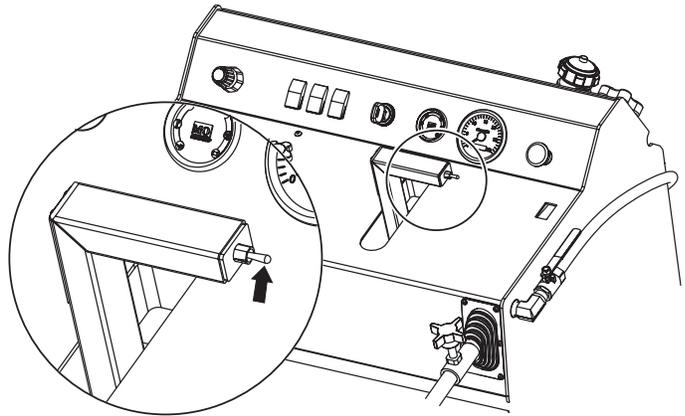

Figure 29. Raise-Lower Control Toggle Switch
- To Lower the blade, push the toggle switch located on the end of the Control Handle FORWARD, (Figure 29).